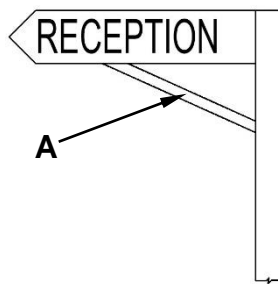

Fig. 12
- 15 **Figure 12** shows a sign post.